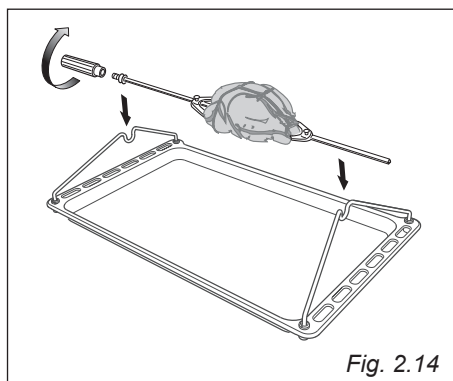

Fig. 2.14
3. Position the skewer on the support (fig. 2.14).